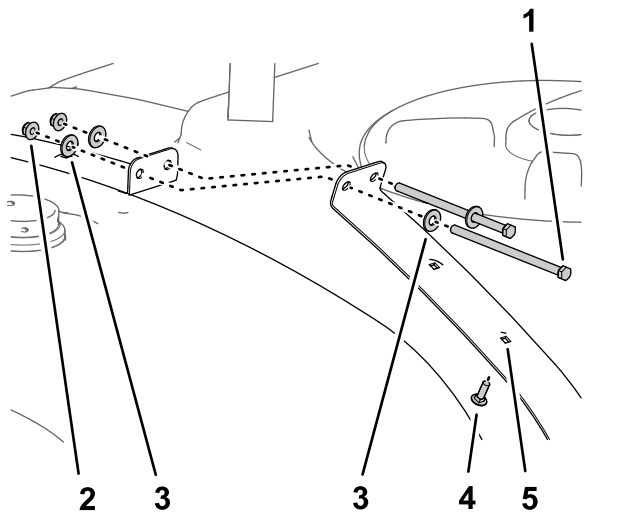

Figure 28
1. Remove the 2 bolts (3/8 x 7 inches), 4 washers (3/8 inch), and 2 locknuts (3/8 inch) that secure the front strap halves of the spray tank (Figure 28).
2. Insert the carriage bolt (5/16 x 1 inch) into the second hole in the strap half as shown in Figure 28.
3. Assemble the 2 front strap halves with the 2 bolts 4 washers, and 2 locknuts that you removed in step 1, and tighten the bolts and nuts by hand (Figure 28).